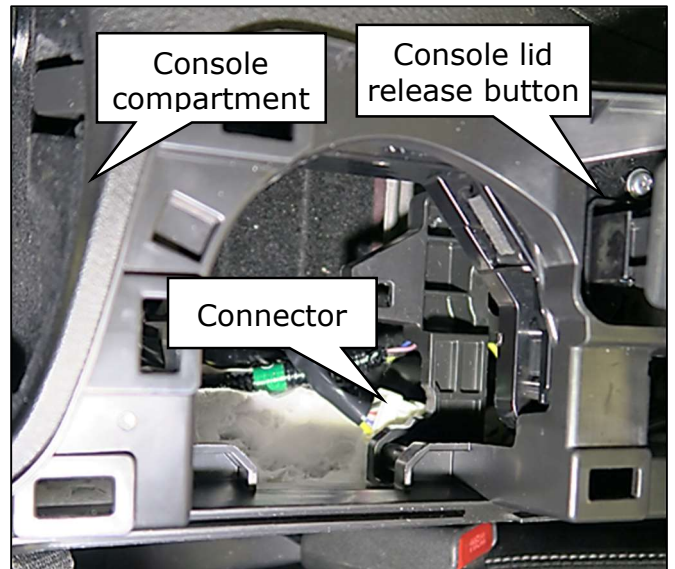

Figure 53
50. Reconnect the center console harness connector. (Figure 53)